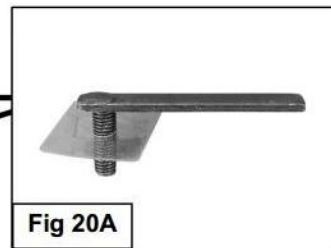

Fig 20A
16. Locate the last (2) round holes along the floor panel, **(Figure 18)**. Repeat **Steps 2-5** to install the (2) Bolt Plates and Lock Plate, **(Figures 20A & 20B)**